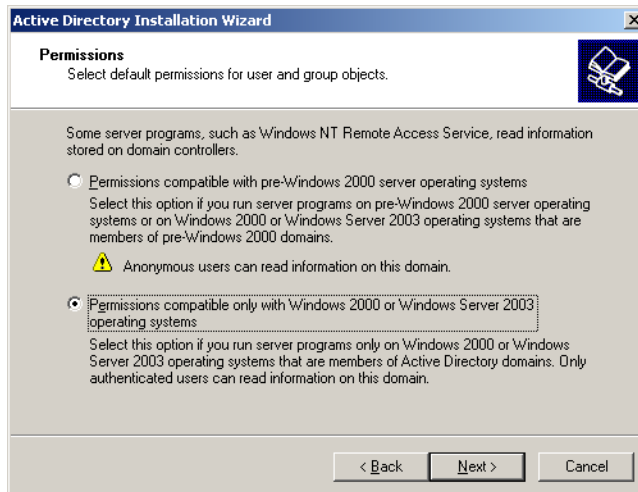

Figure D-15 Permissions dialog
17. In the **Permissions** dialog shown in figure D-15, select the **Permissions compatible only with Windows 2000 or Windows Server 2003** (default) radio button, then click the **Next** button.